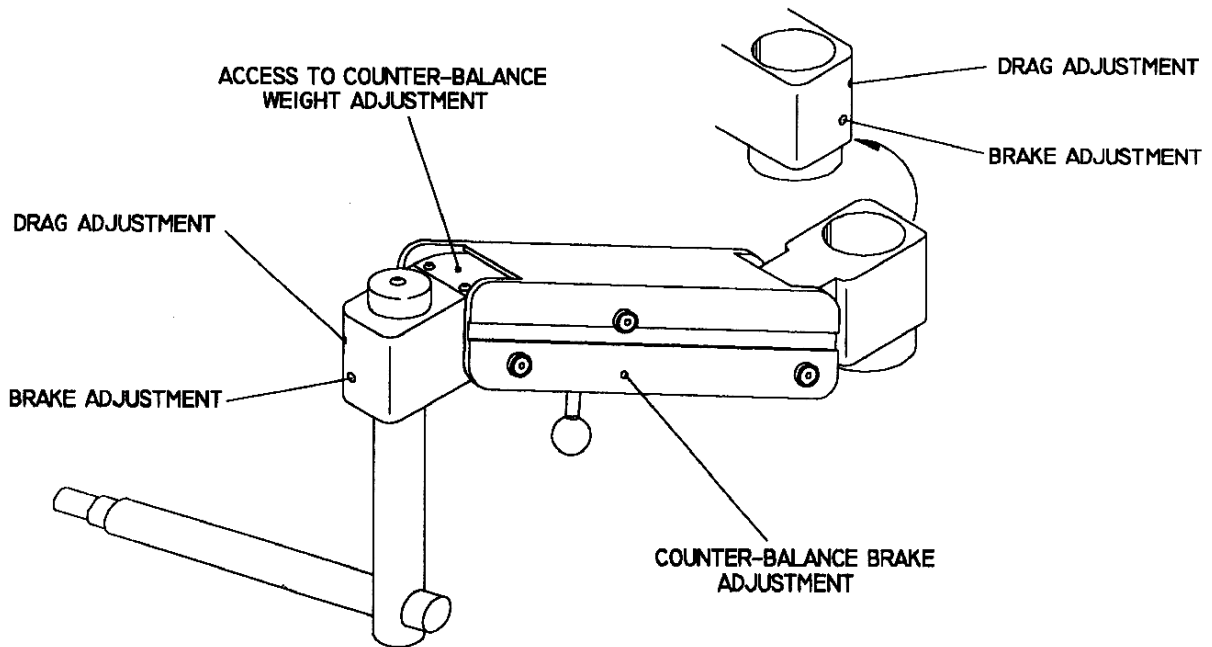

Figure 5: Counterbalanced Arm Adjustments
To adjust the counterbalancing of the instrument arm, (refer to Figure 5) remove the black plastic panel located at the instrument end of the arm by unscrewing the (2) round-head Hex screws, then lock the instrument arm at its maximum elevated position.
In instances where the brake is not restraining vertical movement, the counterbalancing brake will need to be adjusted. The counterbalancing brake adjustment is located on the diagonal arm (refer to Figure 5). The arm will have three (3) black screws with caps on one end and a small opening underneath the middle black screw.